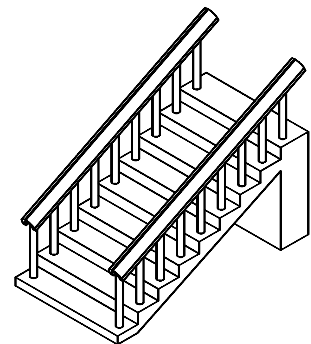

Figure 30-12 Model for Example 1
In this example, you will draw the staircase shown in Figure 30-12. You can assume arbitrary dimensions. Attach the materials to the objects and then render the model. The materials that you have to assign to the model are given next.
1. Create the model shown in Figure 30-12 assuming arbitrary dimensions.